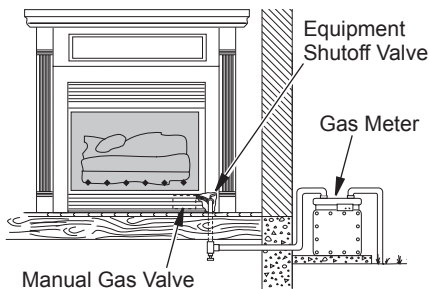

Figure 18 - Checking Gas Joints for Natural Gas Fireplace
3. Check all joints from gas meter for natural gas or propane/LP supply to equipment shutoff valve for propane/LP gas (see Figures 18 or 19). Apply noncorrosive leak detection fluid to all joints. Bubbles forming show a leak.
4. Check all joints from equipment shutoff valve to gas valve (see Figure 18 or 19, page 15). Apply noncorrosive leak detection fluid to all joints. Bubbles forming show a leak.